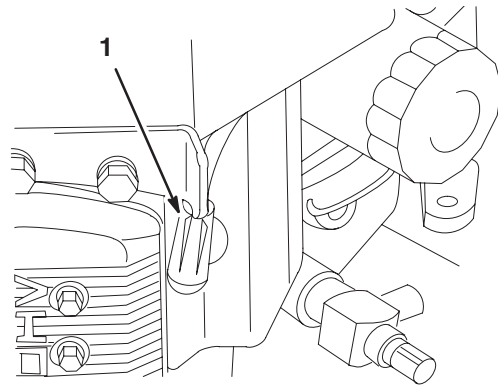

Figure 32
3. Disconnect the wires from the spark plugs (Fig. 32).
3. Connect the wires to the spark plugs (Fig. 32).